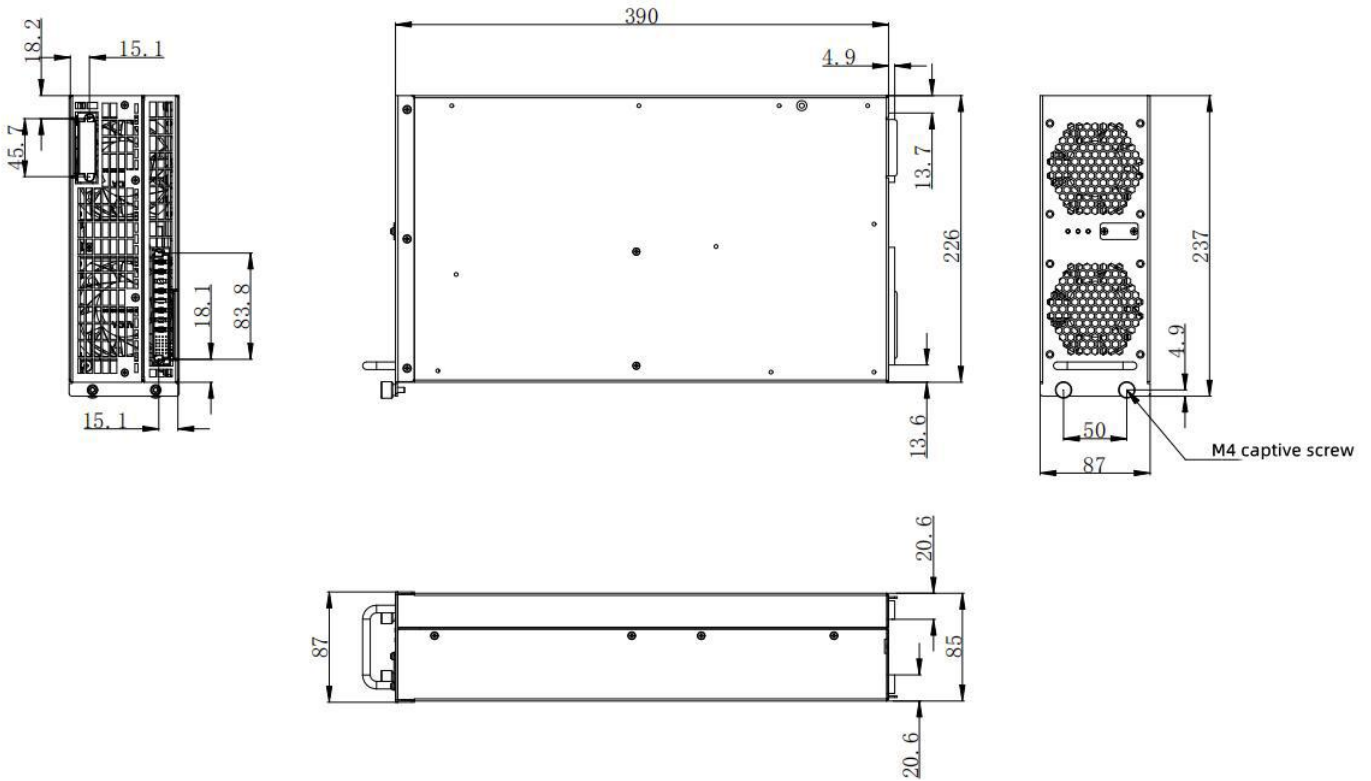

Figure 2-4 Module dimension (mm)
2.2.1 The installation dimensions of MXR200150 module are shown in Figure 2-4.